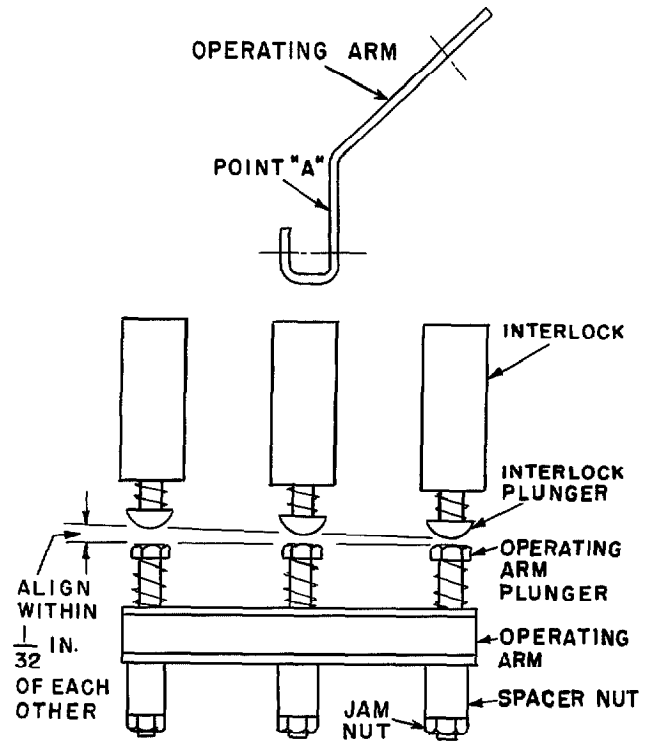
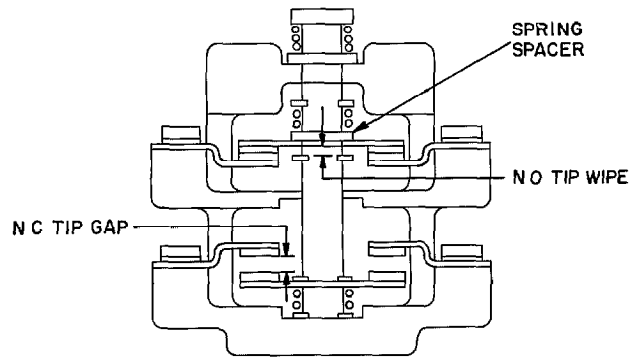
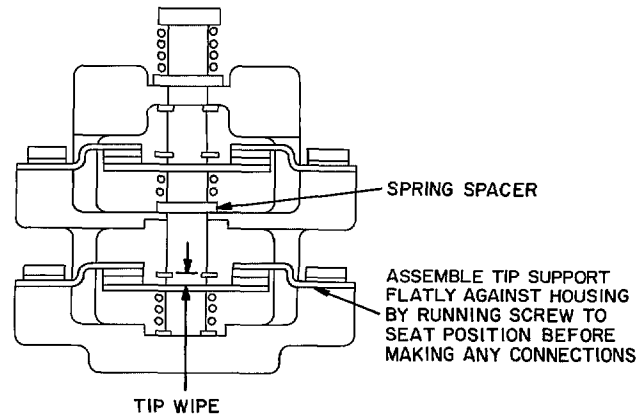

Figure 7. Adjustment of operating arm plungers and interlock plungers.
Figure 8. Interlock block with one set of normally open contacts and one set of normally closed contacts in de-energized position of contactor.
Figure 10. Interlock block with normally open contacts in energized position of contactor.
- All interlocks should have a minimum tip gap of $5/64$ inch and a minimum tip wiper of $3/64$ inch measured at locations shown in Figure 8. They should not normally require any adjustment. If necessary to readjust, bend the operating arm at "A" as shown in Figure 7. Do not adjust the spacer and jam nut on the operating arm plungers.
- If it is necessary to change the interlock contacts from normally open to normally closed or vice versa; reassemble the contacts, springs, and retainers as shown in Figures 8, 9 and 10. The spring ends must not project in the holes or keys or otherwise interfere with the movement of the operating arm.
Contact blocks with two normally closed circuits require a spring spacer (see Figure 10) to assure that the center spring is in place properly. Because of the circuit re-arrangement feature, a spring spacer is supplied with all other two-circuit contact blocks as shown in Figures 8 and 9.
When circuits are rearranged to obtain one normally open and one normally closed circuit, the contacts should be assembled as shown in Figure 8.
The tip springs must be located as shown in Figure 8.